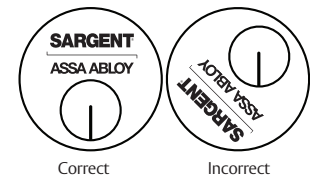

Figure 12
- SARGENT logo must be horizontal and on top. (Figure 12)